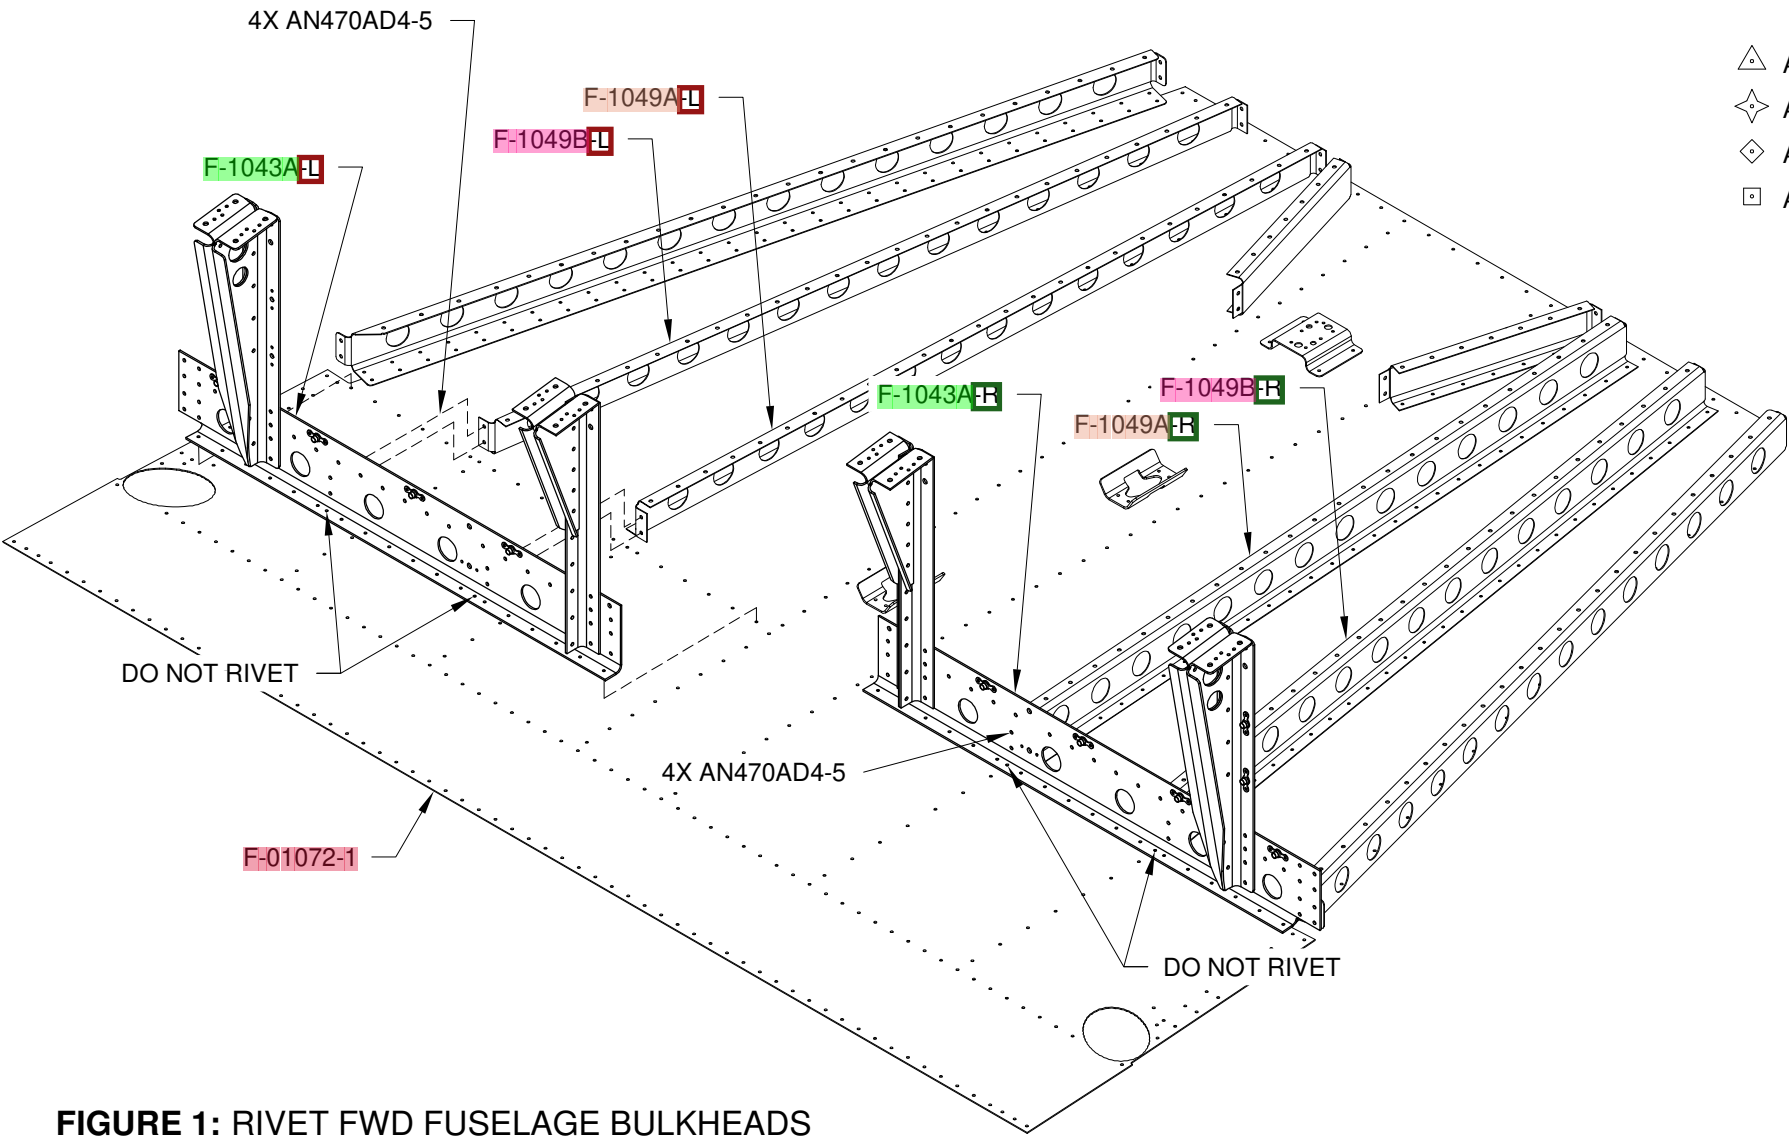

FIGURE 1: RIVET FWD FUSELAGE BULKHEADS TO FWD FUSE BOTTOM SKIN
Step 2: Rivet the aft tabs of the F-1049A-L and F-1049B-L Fwd Fuselage Floor Ribs to the F-1043A-L Fwd Fuselage Bulkhead as shown in Figure 1.
Rivet the aft tabs of the F-1049A-R and F-1049B-R Fwd Fuselage Floor Ribs to the F-1043A-R Fwd Fuselage Bulkhead as shown in Figure 1.